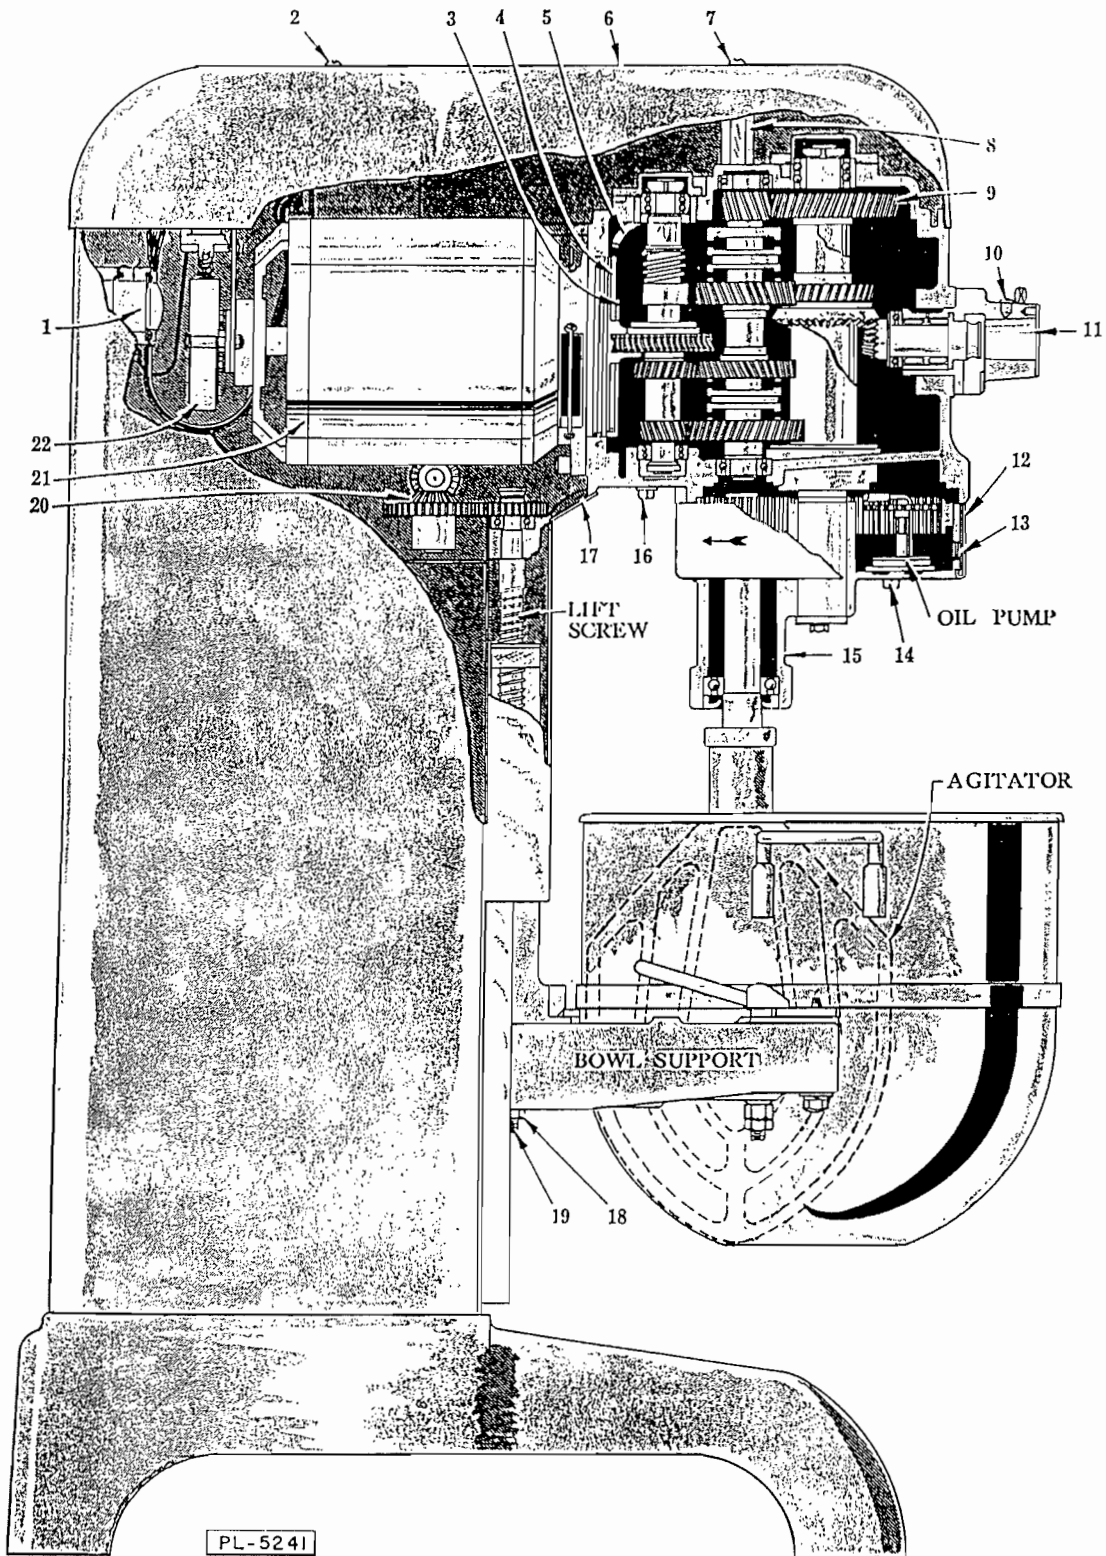

FIG. 1
Before making the electrical connections, read the specifications on the name plate to make sure that they agree with those of your electric service. Remove the top cover, which is held in place by two screws (2 and 7, Fig. 1). Bring the power line in through the hole at the top of the pedestal, and connect to the motor controller. This is the only connection required. Three-phase machines must be so connected that the planetary runs in the direction shown by the arrow in Fig. 1.
as the oil-fill plug (8, Fig. 1). Use only the special transmission oil that is shipped with the machine. The oil level should be somewhere between the center and top of the oil gage for correct lubrication. If the oil level falls below the gage line when the motor is running, add more oil. While the machine is running, look down the oil-fill and make sure that oil is pouring out of the delivery tube onto the gear face.
- 1 - Remove drain plug (14, Fig. 1) to check on previous draining of the planetary. Then replace.
- 2 - Remove the drip cup (12, Fig. 1), which is held by two screws.
The gearing is located on the handwheel bracket inside the pedestal. Remove the top cover (6, Fig. 1) and wipe some grease on the gear teeth. Protect yourself from the electrical supply at the starter. The handwheel shaft may be oiled through an oiler on the handwheel bracket.
(1) The oil level in the Transmission should be up to the line in the gage.
(2) The oil level in the planetary should be up to the filling opening. It will be necessary to take off the drip cup and remove the plug (13, Fig. 1) to check this.
(3) When using an attachment, put a drop or two of oil in the oiler (10, Fig. 1).
(4) Keep bowl slideways lubricated.
Adjustment should always be made with the bowl and type B beater in place. Loosen the lock nut (18, Fig. 1) and turn the screw (19, Fig. 1). Be sure to tighten the lock nut after the proper adjustment has been obtained.
In 4th speed, the brake (22, Fig. 1) should stop the planetary in about one revolution.